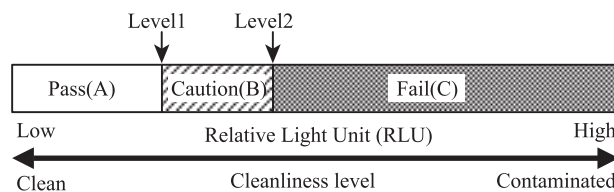

Fig. 3: Setting Benchmark Level for Cleanliness Level Control
Benchmark levels 1, 2 are set that are used to determine whether cleanliness levels are at acceptable levels or not (see Fig. 3). Cleanliness levels are designated as Pass (A) if the measured amount of luminescence falls below level 1 and as Fail (C) if the amount is higher than level 2. With Fail (C), cleaning will need to be redone and cleaning procedures may need to be revised. Cleanliness levels where the measured amount of luminescence is above level 1 but below level 2 are designated as Caution (B), and it is recommended that cleaning be redone and cleaning procedures revised in such cases.